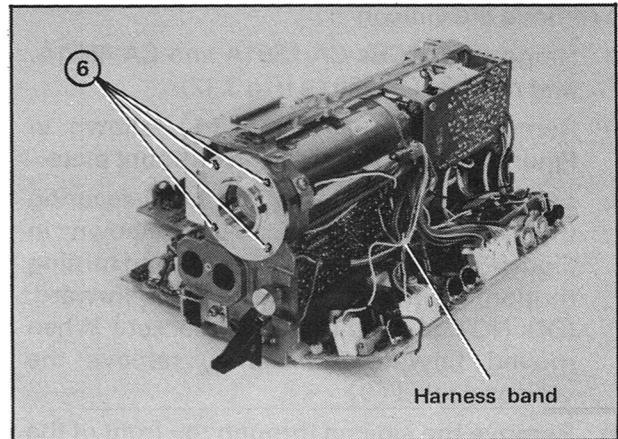

Fig 3.17 Removing the Lens Mount
- (5) Remove the four screws ⑥ from the C-mount plate that retains the lens (Fig 3.17)